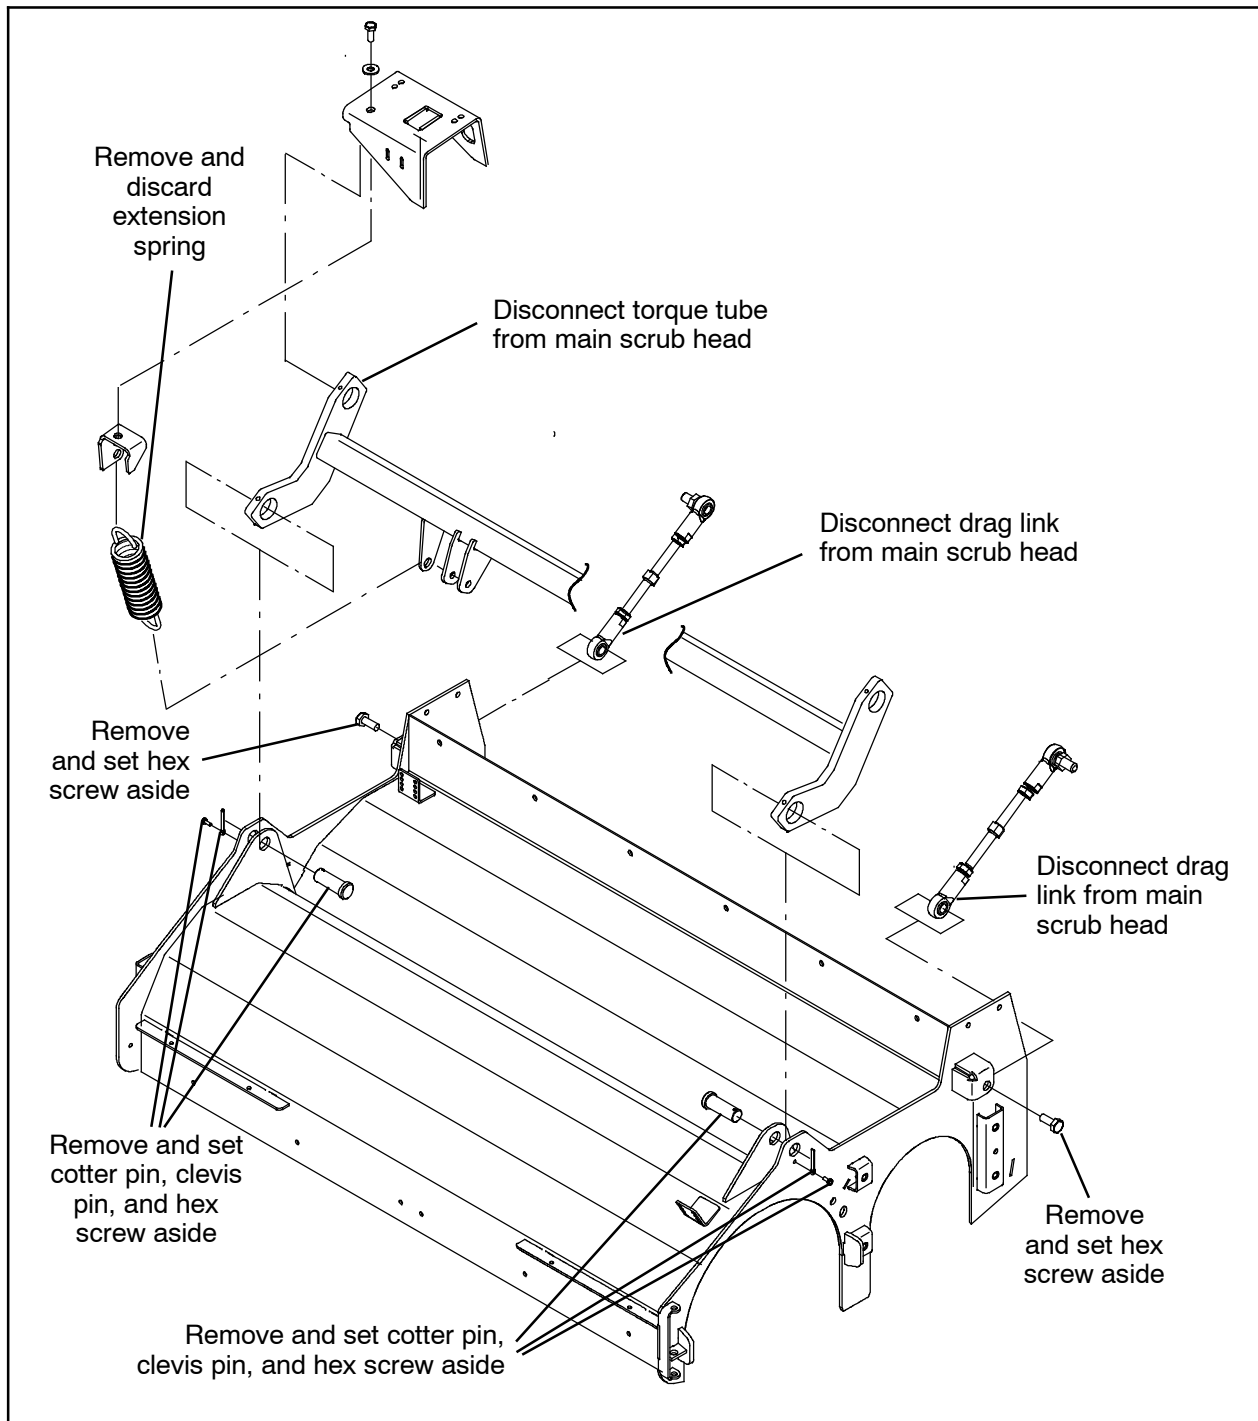

FIG. 3
3. Disconnect both drag links from the main scrub head. Set the hex screws aside. (Fig. 3)
4. Disconnect the torque tube from the main scrub head. Set cotter pins, clevis pins, and hex screws aside. (Fig. 3)
5. Disconnect the torque tube from the main scrub head. Set cotter pins, clevis pins, and hex screws aside. (Fig. 3)
6. Disconnect the extension spring from the torque tube and bracket. Discard the extension spring. (Fig. 3)